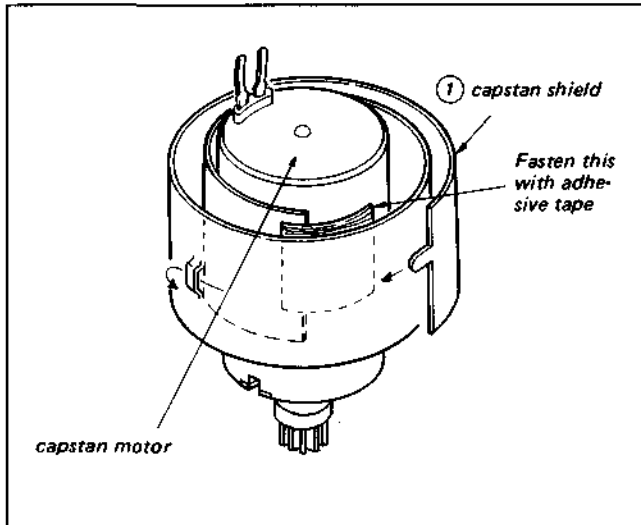

Fig. 3-9. Replacement of DC motor (3)
4. Remove capstan shield ① from the defective motor and install them on the replacement motor. (See Fig. 3-9.)